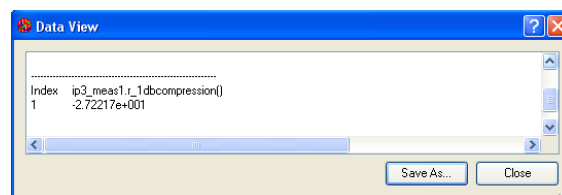

Figure 17: 1dB Compression Point Value
4.2.2: To view the value of P1dB result, select vector `r_1dbcompression` for `meas1` from SMARTVIEW and press **View Data** (Figure 17). The measured input referred 1dB compression point is -27.2 dBm.